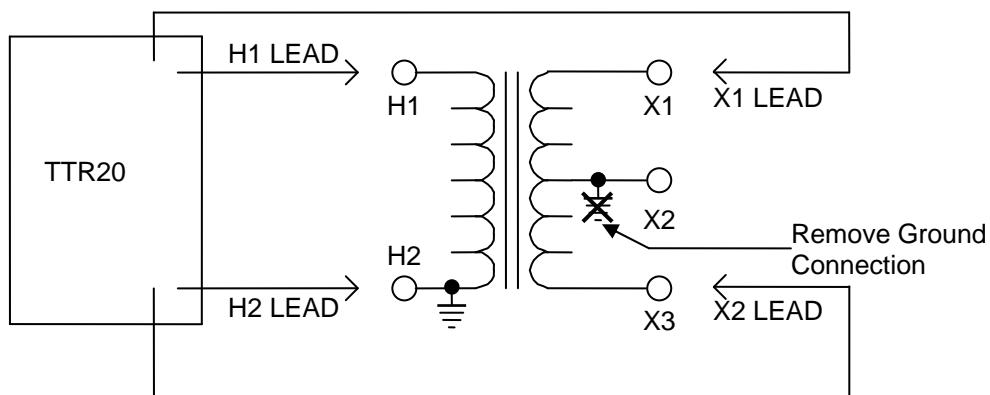

Figure 4-7 Setup for Testing X1 – X3 Winding of Distribution Transformer
5. When testing full secondary winding (X1 – X3), connect X1 clip to X1 terminal, connect X2 clip to X3 terminal. Remove the ground connection to X2 transformer terminal before starting the test. Expect that polarity of the windings is normal (“+” sign is displayed in front of the turns ratio test result). See *Figure 4-7*.